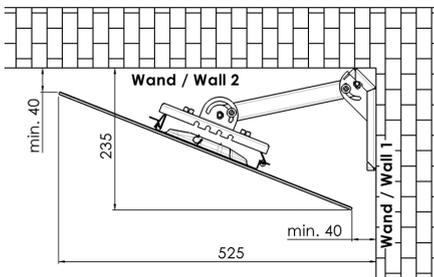

Fig. 1
3. Mounting option corner and wall vertical (Fig. 1)